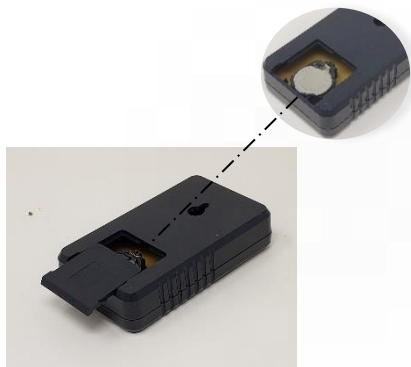

Figure 6-1
1. Remove the battery cover on the rear of the remote control as shown in Fig. 6-1.
2. Install the supplied battery (CR2032) with the "+" side facing upward (Fig. 6-1).